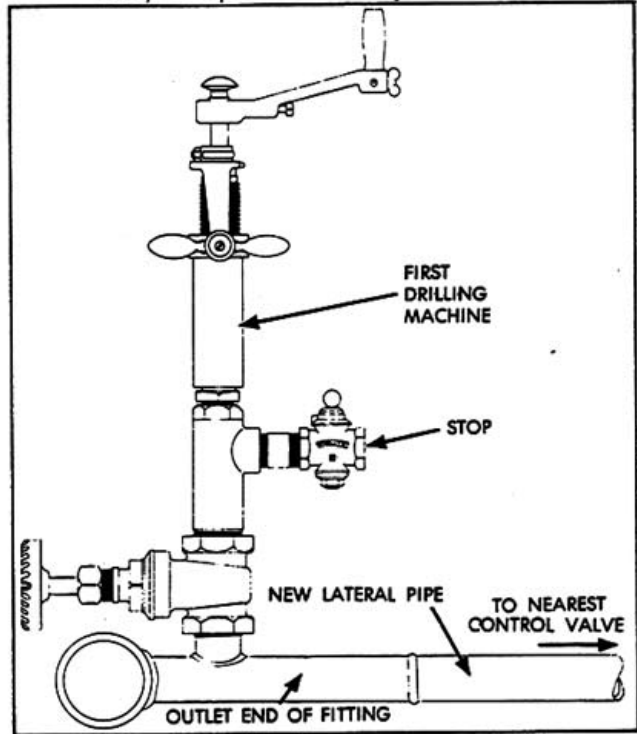

FIGURE 18
6. Cut off threads on the outlet of the fitting and weld new lateral piping to the outlet. Run lateral pipe to nearest control valve and close. See FIGURE 18.